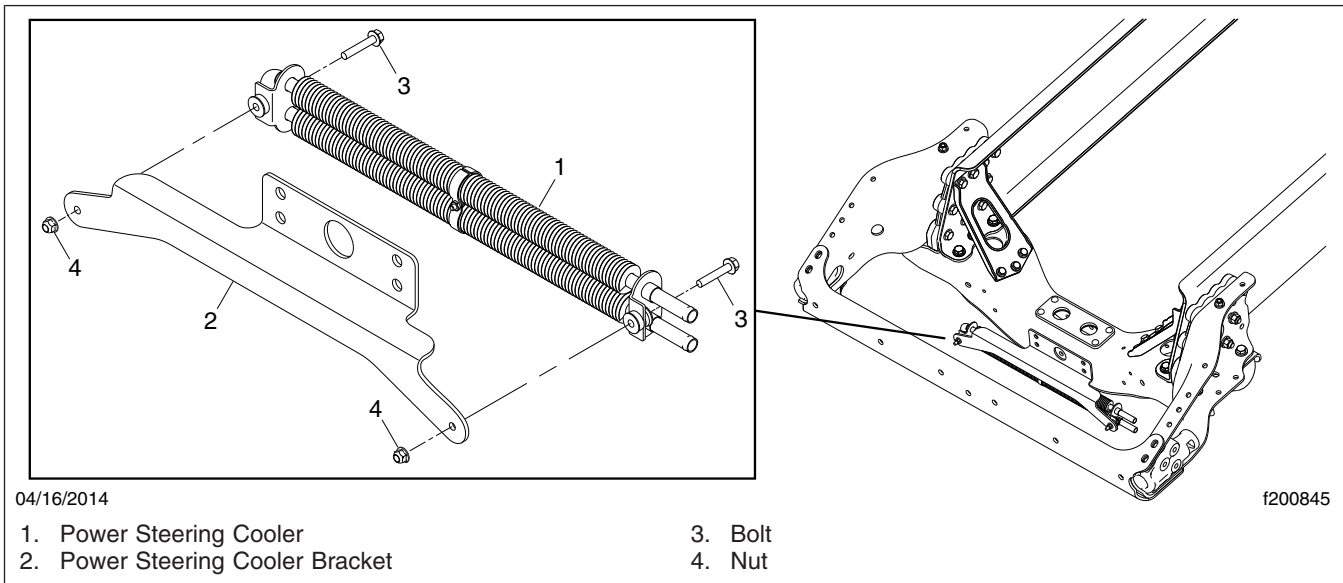

Fig. 7, Power Steering Cooler Bracket Installation
23. Install the new power steering cooler bracket on the front closing crossmember, and install the power steering cooler. See Fig. 7.